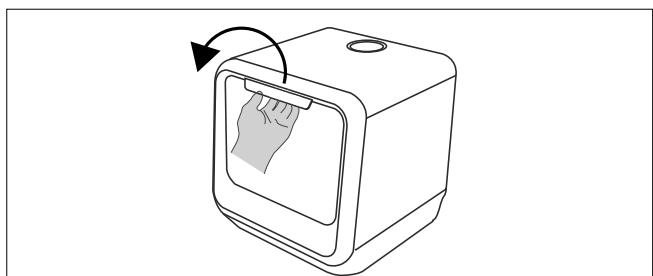

Fig. 12 – Opening the door
- ▶ Hold the recessed grip (1) and open the door by pulling it towards you. Open the door completely (see **Fig. 12**).
- ▶ Push the dish rack (6) fully into the appliance.